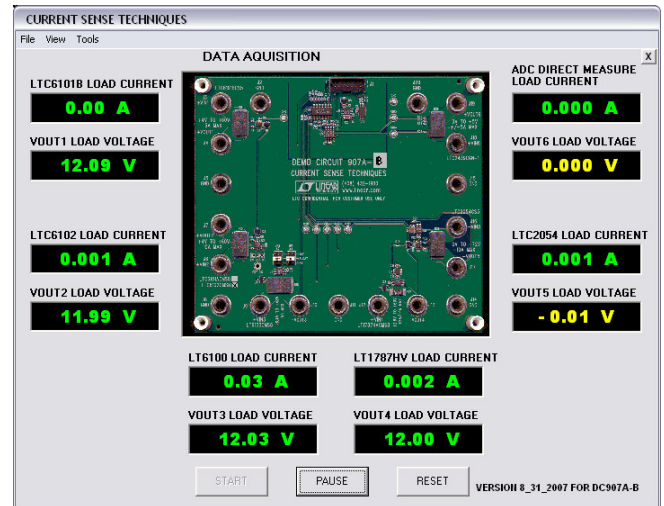

Figure 15. All Demo Sub-Circuits Displaying Concurrently
1. In the setup screen of the DC907 software, any combination of enable boxes may be selected prior to mouse-clicking the START box. All the selected sub-circuits will display concurrently in the same fashion they did individually. Figure 15 shows a case where all six sub-circuits are active.